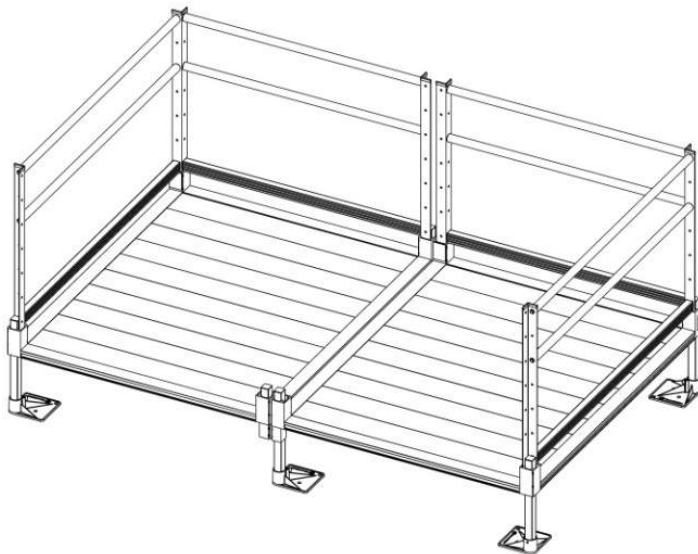

FIG. 2.11
- FIG. 2.11** Low profile platform turn back configuration (two 5' x 4' platforms shown combined to make 5' x 8' turn back platform).
- 2.6.3. All three require the same procedure for assembly except for the turn back (FIG. 2.11), which requires an additional PPC (PLATFORM TO PLATFORM CONNECTOR).